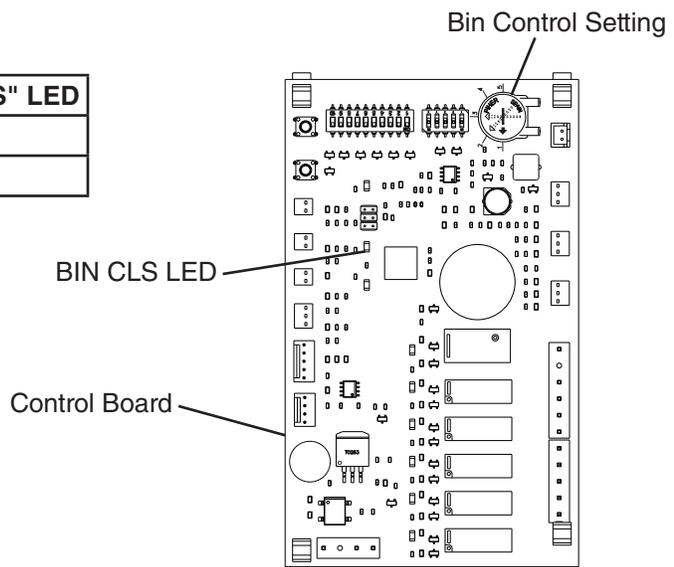

Fig. 11
- 5) Confirm the control board "BIN CLS" LED is off (bin empty). See Fig. 11.